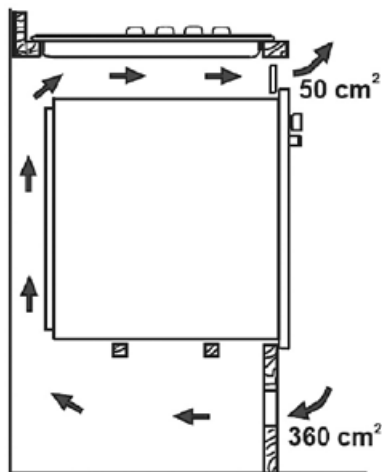

Fig. 10a
7. If no oven is installed under the appliance, allow a gap of a minimum of 15 mm below it. If an oven is installed underneath, for effective air circulation the unit must be installed according to the dimensions on Fig. 10a or 10b.